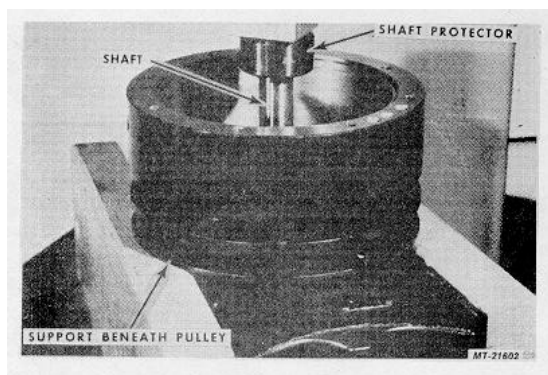

Fig. 72
35. Using Shaft Protector SE-2782-8 press down until Bearing Assembly is seated against Spacer Ring and External Snapping, Fig. 72. Shaft will move only 1/16".